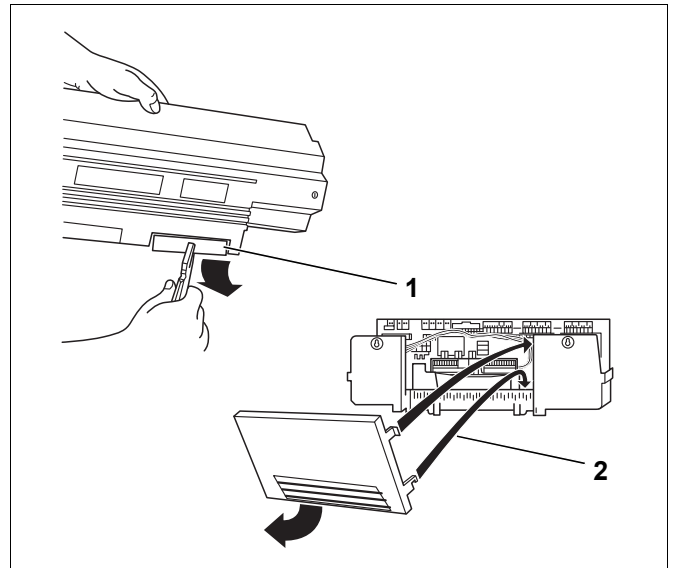

Fig. 61 Prepare the cable duct
- Where necessary remove any knockouts (Fig. 61, [1]) in the back of the cable duct (Logamatic 33xx) or from the rear wall (Logamatic 43xx) (Fig. 61, [2]).
- Hook the rear wall part (Logamatic 43xx) with the lower hooks into the clip frame and push the top part home, until the lateral hooks engage (Fig. 61, **[2]**).